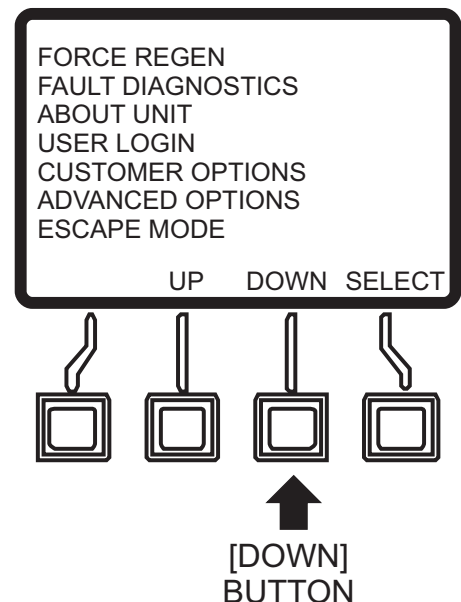

Figure 80. Main Menu Down Button)
4. Press the **[DOWN]** button (Figure 80) to scroll to the Escape Mode item.